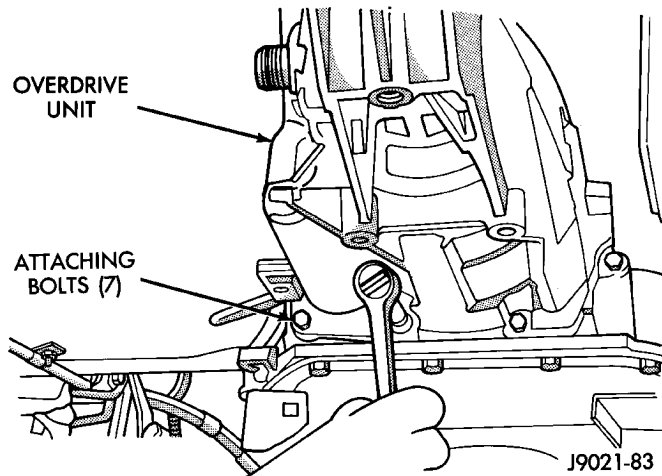

Fig. 34 Overdrive Unit Bolts
- (1) Shift transmission into Park.
- (2) Raise vehicle.
- (3) Mark propeller shaft universal joint(s) and axle pinion yoke for alignment reference at installation.
- (4) Disconnect and remove propeller shaft(s).
- (5) Remove transmission oil pan, remove gasket, drain oil and reinstall pan.
- (6) If overdrive unit had malfunctioned, or if fluid is contaminated, remove entire transmission. If diagnosis indicated overdrive problems only, remove just the overdrive unit.
- (7) Support transmission with transmission jack.
- (8) Remove vehicle speed sensor and speedometer adapter, if necessary.
- (9) Remove bolts attaching overdrive unit to transmission (Fig. 34).